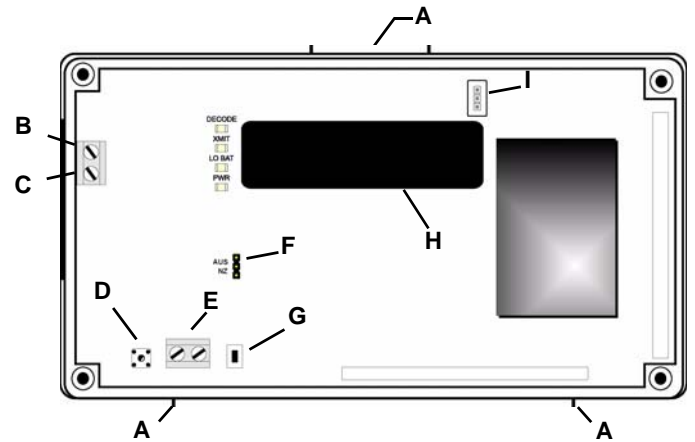

Figure 2 EN5000 Components
- Use a small screwdriver to press the housing release tab on the top or bottom of the high-power repeater (Fig. 2); separate the housing.
- Connect power cabling to the Vs and GND connections (Fig. 2).
- Plug the connector cable from the backup battery into the battery connector (Fig 2).
- Use a small screwdriver to press the housing release tab on the top or bottom of the receiver (Fig. 2); separate the housing.
- Place a selection jumper on the appropriate frequency band selection pins (Fig. 2).